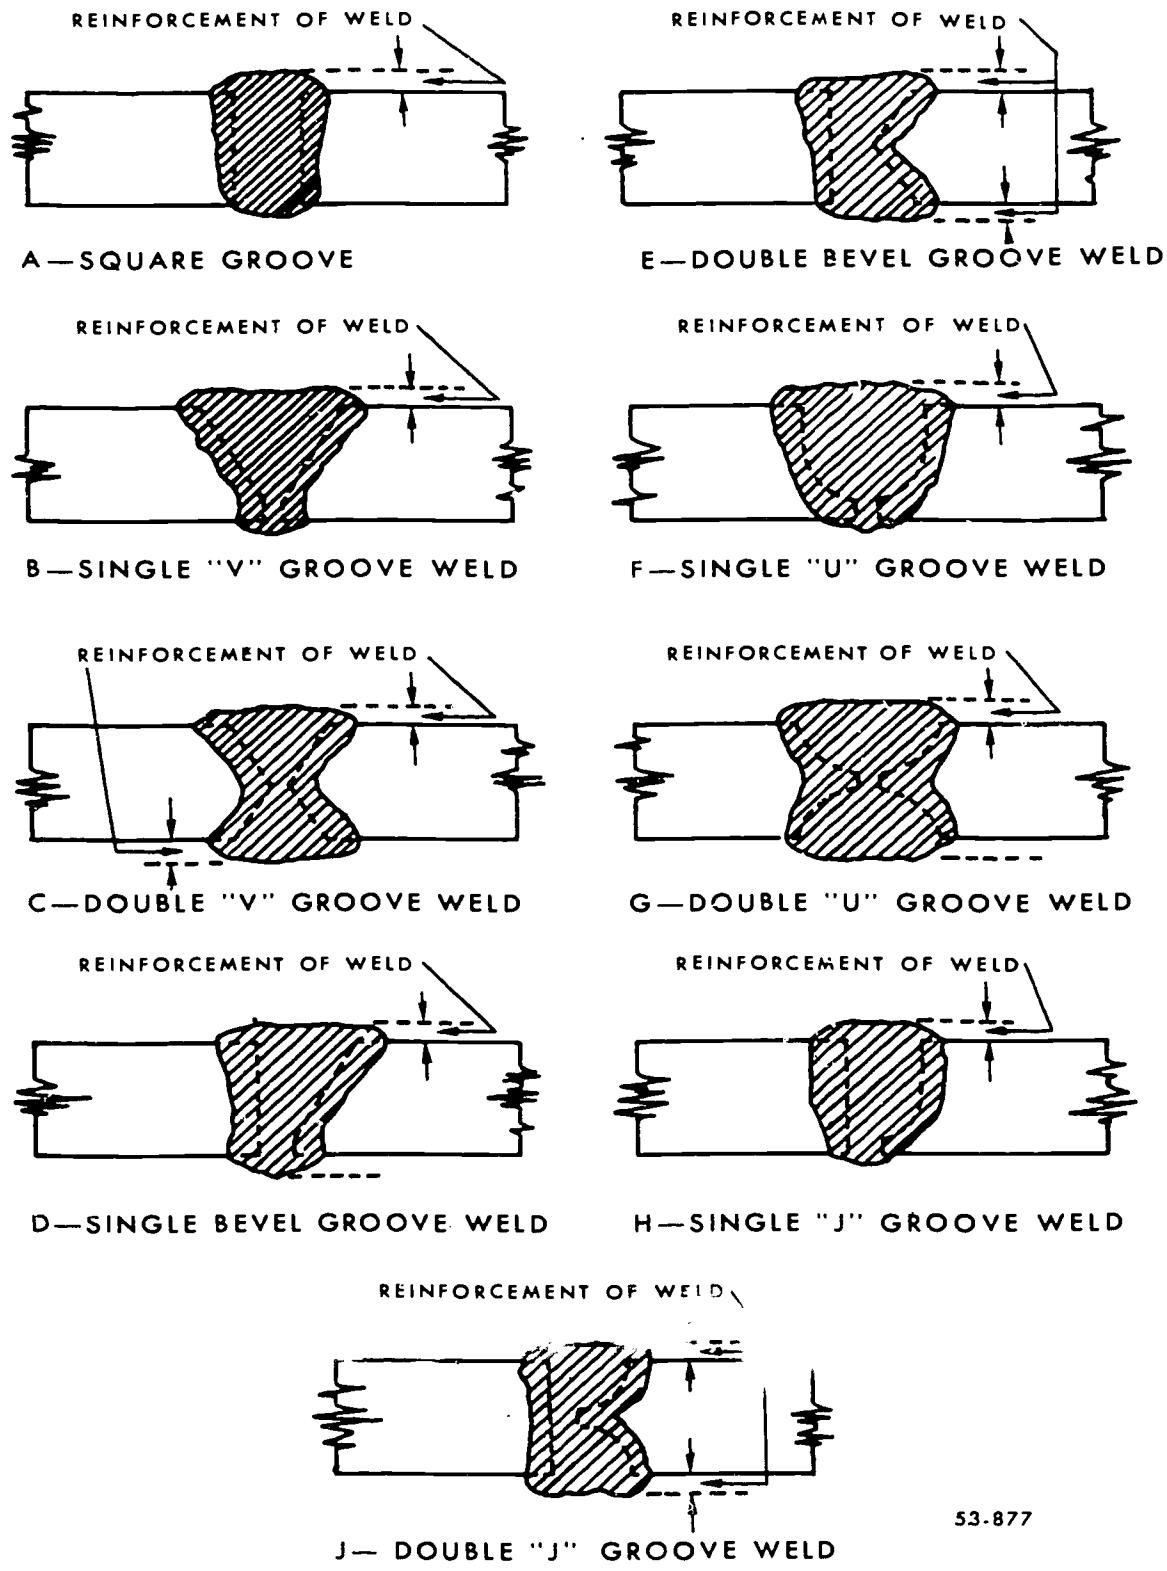

Figure 3-24. Butt joints in the flat position.
**Butt Joints.** A butt joint is used to join two plates having surfaces in approximately the same plane. Several methods of edge preparation for joints are used to make butt welds in the flat position; the most important are shown in figure 3-24.
Plates  $\frac{1}{8}$  to  $\frac{3}{8}$  inch thick can be welded with no special edge preparation by making a bead weld on both sides of the joint if possible. Use a single bevel to weld metals that are  $\frac{1}{8}$  to  $\frac{3}{8}$  inch thick when welding on both sides is not possible. Bevel the edge to an angle of  $30^\circ$  to  $35^\circ$ . Use the single bevel (shown in fig. 3-24) view D, when you cannot bevel one of the plates because of its shape location, or fixed position. In this case, the weld is made from one side. The single "V" (shown in view B of fig. 3-24) differs from the single bevel in that you bevel the edges of both plates. The included angle of the bevel should be  $60^\circ$  to  $75^\circ$ . Use it on the same thickness of metal that you use for the single bevel. Make the weld from one side only. The number of passes required will depend upon the metal thickness.
Use the double bevel (shown in view E of fig. 3-24) on metals over  $\frac{3}{8}$  inch thick. Bevel the edge on both sides to an angle of  $30^\circ$  to  $35^\circ$ . Use the double bevel when you cannot bevel the joining plate in the same manner and for work you can weld on both sides. The double "V" (shown in fig. 3-24 view C) differs from the single bevel in that you bevel the edges of both plates. The included angle of the double "V" bevel should be from  $60^\circ$  to  $75^\circ$ . Use it on the same thickness of metal that you use for the double bevel. The double "V" requires approximately one-half as much electrode as the single "V" butt joint. In general, butt joints prepared from both sides permit easier welding, produce less distortion, and insure better weld metal qualities in heavy sections than the joints prepared from one side only.
You can use the single "U" (shown in view F of fig. 3-24) in place of the single or double "V" for joining 1/2 to 3/4-plates. It is more satisfactory and requires less filler metal than the single "V" for welding heavy sections or welding in deep grooves. Make the weld from one side, except for a single bead that you make last on the opposite side of the "U," if possible. Use the double "U" (shown in view G of fig. 3-24) for joining heavy plates, usually 3/4 inch and thicker. It requires less weld metal than the single "U." Weld from both sides.
The single "J" joint (shown in view H of fig. 3-24) is used to weld plates 1 inch thick or heavier from one side. The double "J" type (pictured in view J of fig. 3-24) is used to weld very heavy plates from both sides. Care is necessary to insure complete fusion in the root of the weld. Penetration is promoted by root openings. Less penetration is required in making the single "J" than the single "V," and the same is true of double "J" and "V" joints.